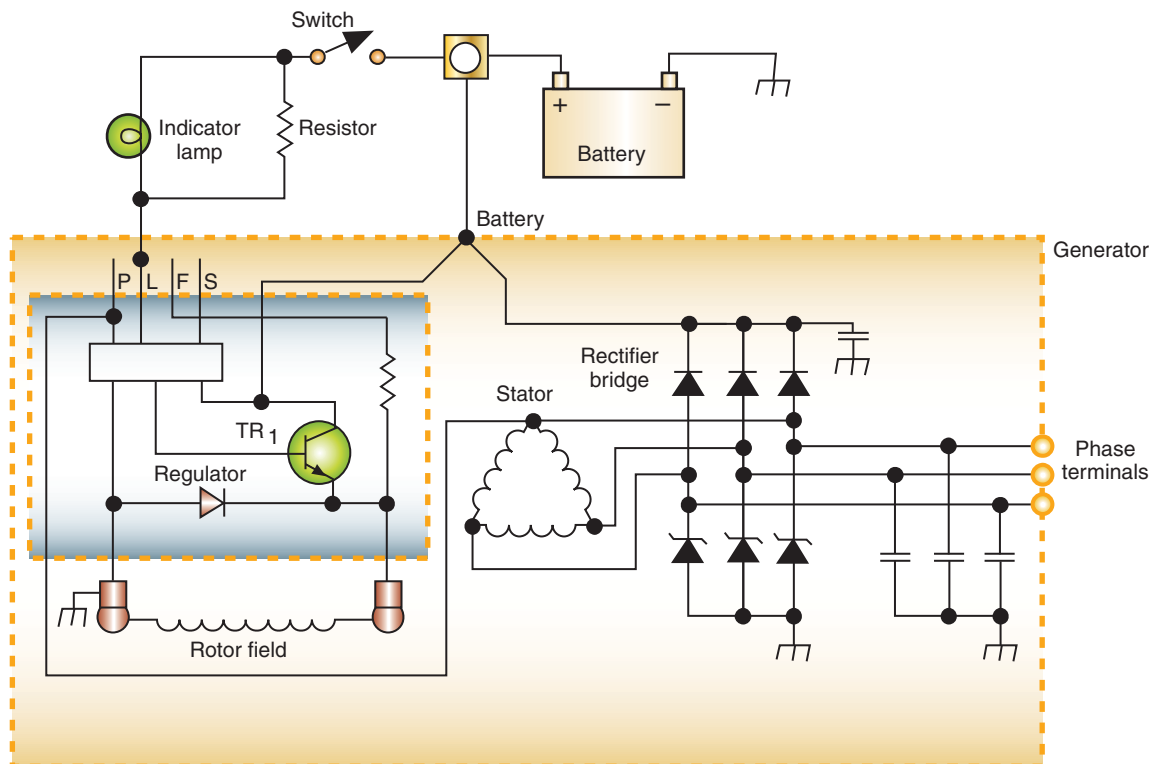

FIGURE 14-91 Schematic of CS 144 alternator used on vehicles equipped with heated windshields. The three terminals provide AC current to the power module.
2. Special CS 144 generator: There are three special phase terminals to provide AC power to the system's power module (Figure 14-91). The generator can continue to supply its normal DC voltage while AC power is being supplied.